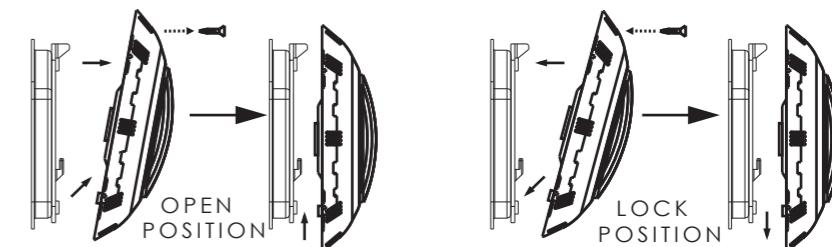

Figure 4.
- 10) Rotating Locking System ensures light is secured to bracket, see Figure 4.(Figure 5.)